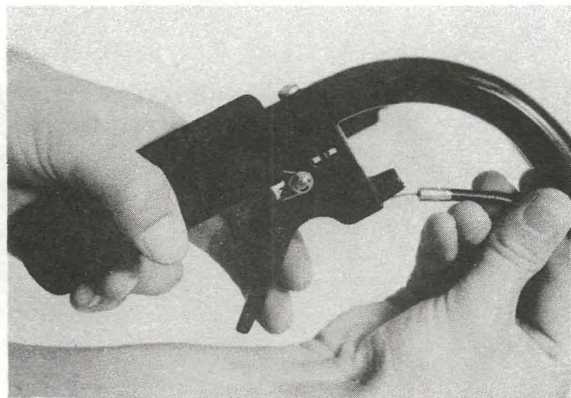

Fig. 12
4. Route the throttle wire outside the handlebar through the slot in the trigger and the trigger housing releasing the housing (Fig. 12).